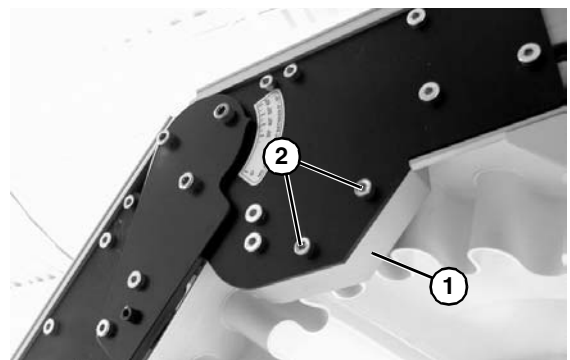

Figure 30
4. Install knuckle guard (Figure 30, item 1) on both sides of knuckle with screws (Figure 30, item 2). Tighten screws to 25 in-lb (3 Nm).